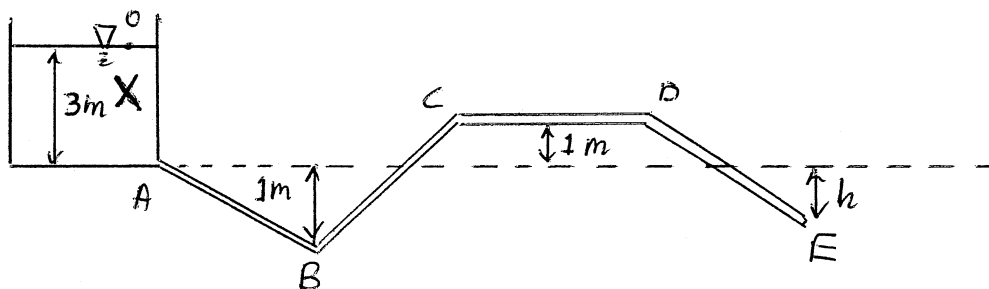

Figure 1
1) An open tank, X, discharges water to the atmosphere through a pipeline ABCDE, as shown in Figure 1. All the pipes have a diameter of 2 cm and are all of the same length. The point O is on the free surface of the tank. Assume the water to be inviscid and incompressible.